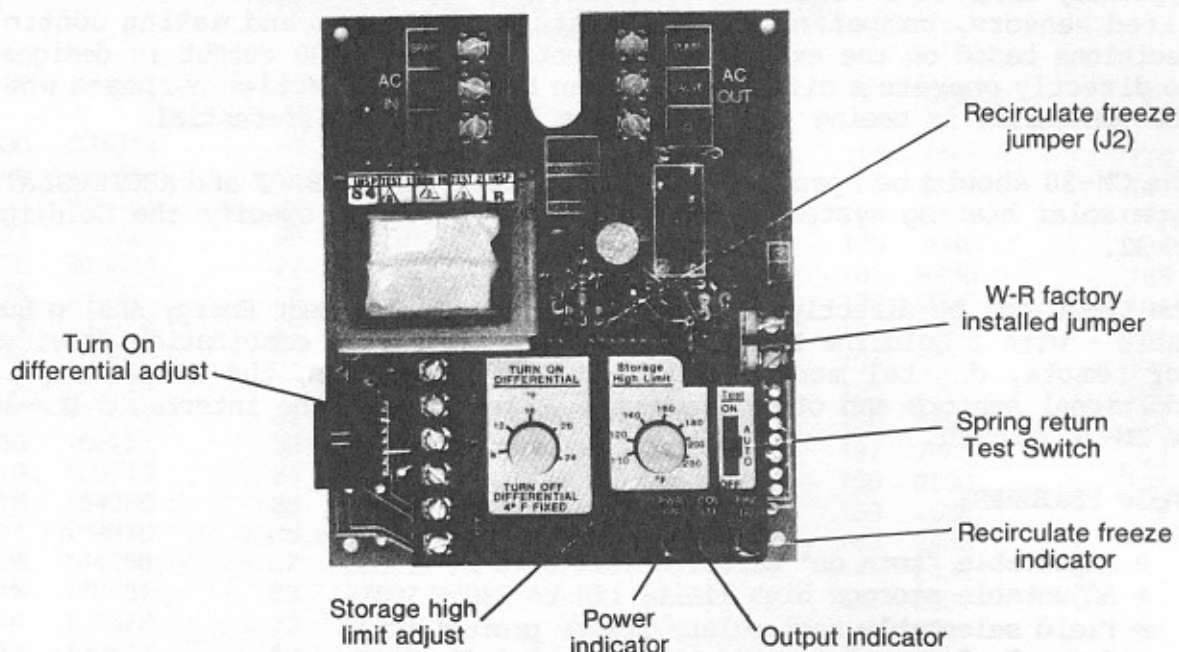

Fig. 1 CM-30
Field adjustable, range: 8 to 24°F (see Fig. 1).
Field adjustable, range: 110 to 230°F (see Fig. 1). Note that 230°F is effectively no high limit.
The CM-30 is factory shipped with the recirculate freeze protection disabled. TO ENABLE, the jumper (J2) must be moved to the "in" position (bottom two pins, see Fig. 1).
"W - R" is a low voltage circuit; breaking continuity across them turns the CM-30 output off (see Fig 1). FOR NORMAL CM-30 USE, DO NOT REMOVE THE FACTORY INSTALLED JUMPER.
- Turn on AC power at circuit breaker panel. Verify that "PWR" indicator is on (see Fig. 1).